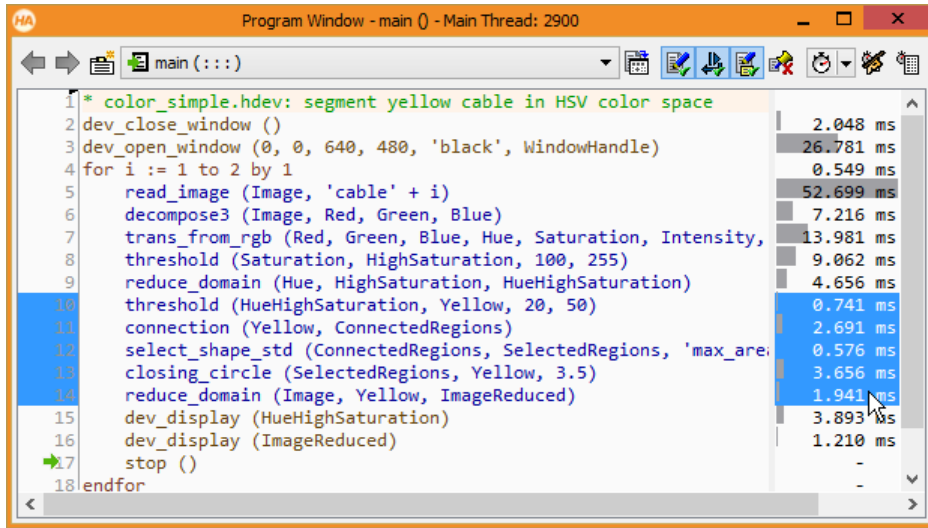

Figure 6.56: Selecting program lines in the profiler.
- Drag over a range of lines in the profiler area (see figure 6.56).